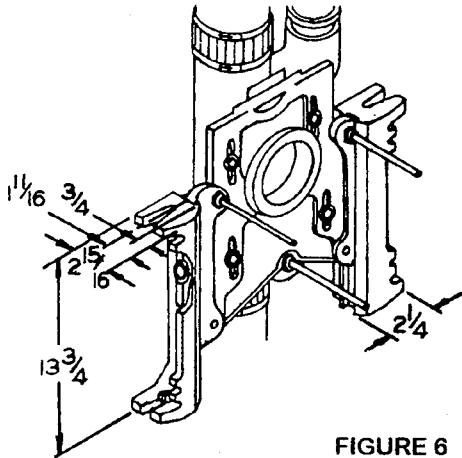

FIGURE 6
1. Install fitting assembly in waste line to required pitch. Place carrier body in blowout position and adjust it to the required roughing. Align oval fitting gasket with inlet opening in fitting and clamp it between fitting and carrier body with the four carrier body securing cap screws. Tighten all cap screws uniformly to a torque between 20 and 25 foot pounds. See Figure 6.